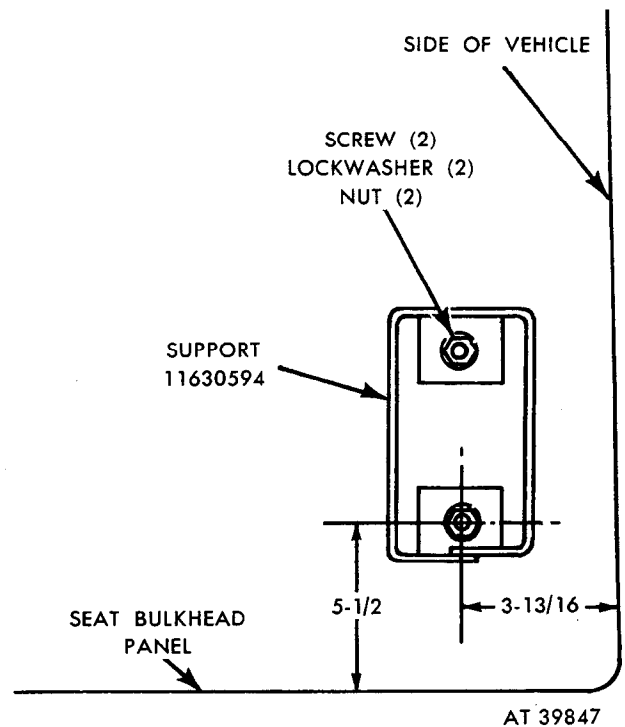

Figure 3-40. Mounting bracket—installed (right side).
(1) Position rifle mounting bracket (1) on the vehicle floor as indicated in figure 3-40.
(2) Locate position for hole A by measuring on the vehicle floor from the seat bulkhead panel and the vehicle side panel, as indicated in figure 3-40.
(3) Mark center for hole A in vehicle floor. Remove bracket and drill a 5/16 inch diameter hole through vehicle floor.
(4) Install and secure rifle mounting bracket to the vehicle floor with a capscrew (12), a lockwasher (8) and a nut (9).
(5) Tighten the nut sufficiently to hold the mounting bracket in position, as indicated in figure 3-40.